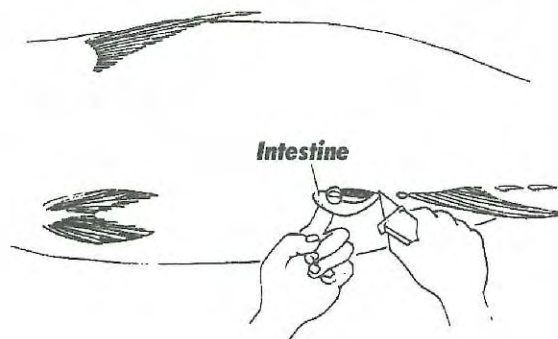

Figure 10. Cut the intestine near the anus.
- Step 2** Reach into the cavity and pull out the intestines attached to the body wall. Cut the intestine near the anus (Figure 10).